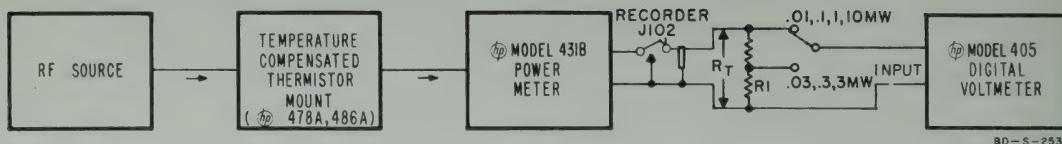

Figure 3-5. Obtaining Increased Resolution
**3-27. INCREASED RESOLUTION.** Digital readout of power to three decimal places can be obtained with the arrangement shown in figure 3-5. The value of  $R_1$  is 316.2 ohms  $\pm 1\%$  and  $R_t$  is 1000 ohms  $\pm 1\%$ . Correct placement of the decimal in the readout is determined by the setting of the power meter RANGE switch. On the divider-switch arrangement at the voltmeter input may be replaced by a single 1000-ohm .1% resistor. With this arrangement, on the .01, .1, and 10 MW ranges, power is read in the same way as when the arrangement shown in figure 3-5 is used, decimal placement being determined by the setting of RANGE. On the .03, .3, and 3 MW ranges, however, to obtain the power readings the voltmeter indication must be multiplied by the factor given in table 3-1.